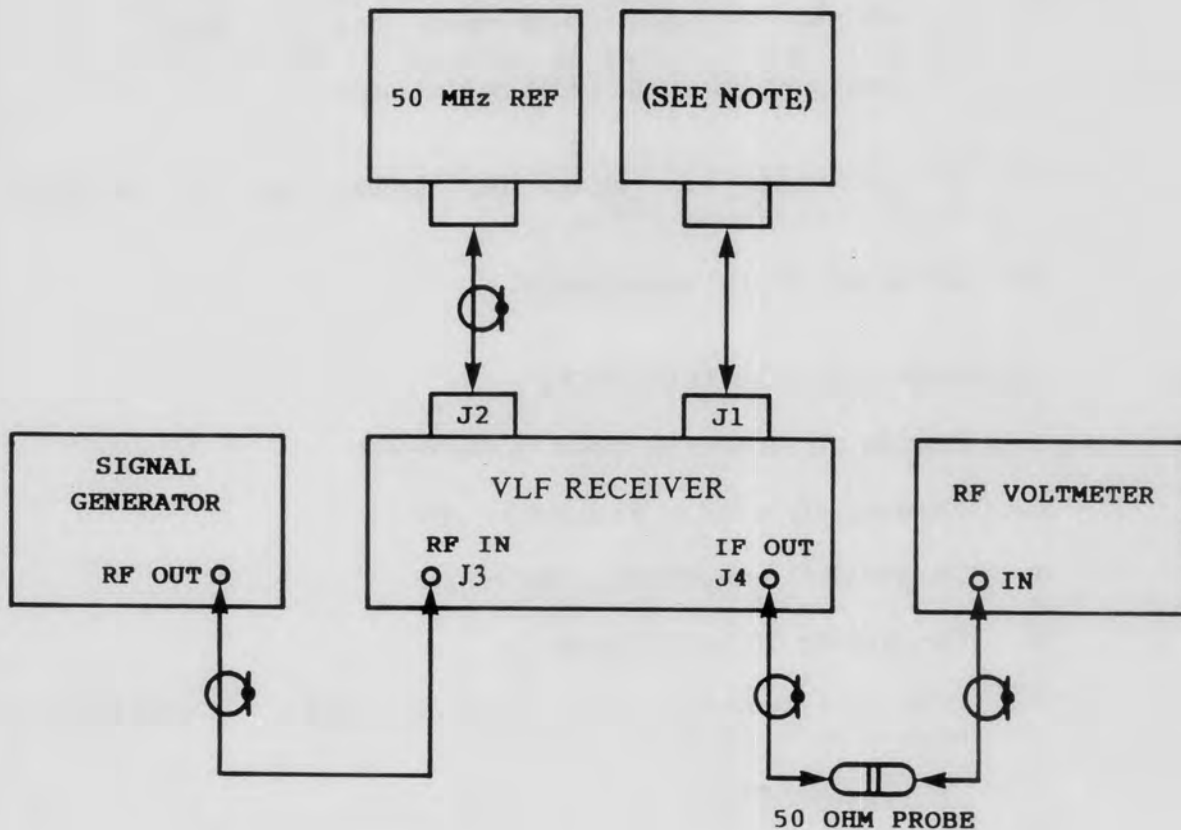

Figure 4-7. IF Gain Adjustment Equipment Setup
1. Connect the receiver as shown in Figure 4-7.